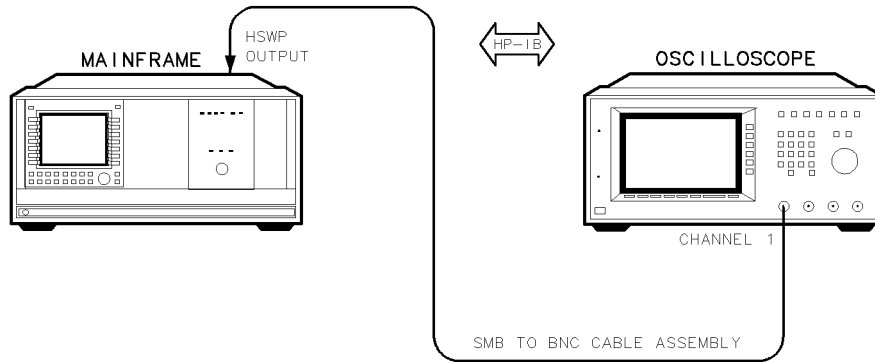

Figure 7-21. Line Triggering Test Setup
3. Connect the HP 54503A digitizing oscilloscope’s CHANNEL 1 INPUT to the DUT’s HSWP OUTPUT using the SMB-to-BNC cable assembly, as shown in Figure 7-21. The oscilloscope will display a 50 ms square wave with 8 ms, 5 V positive peaks.